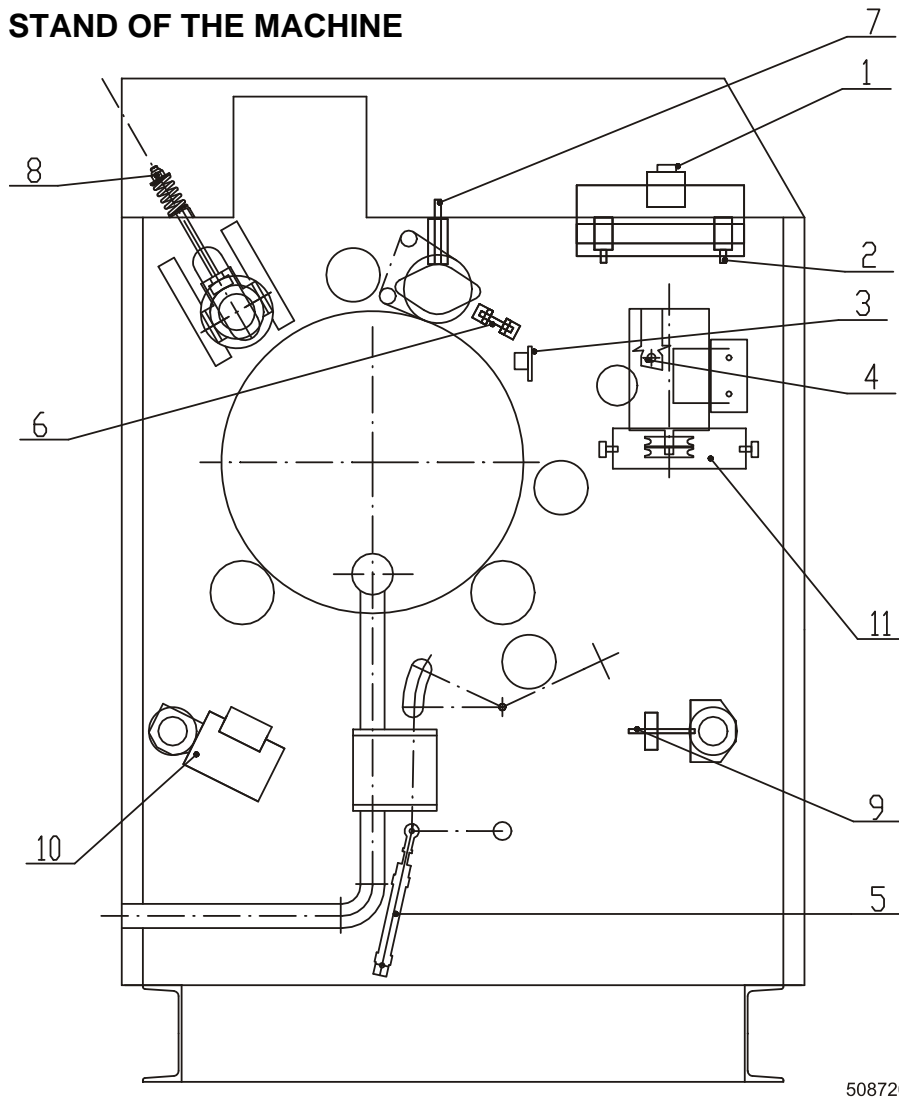

Fig. 5.2.4.A
Minimally 1x a day clean the covers of brush drives. Quantity of textile dust depends on type and quality of linen. Dismantle rear face of the cover, fig. 5.2.4.A, pos. 11 and remove the dust by vacuum cleaner. Remove possible fibres from damaged or low-quality linen by the wire hook.
Round belts of brush drives are tightened by screws, fig. 5.2.4.A, pos. 4.
Adjustment of tilt speed of fold ironing rollers is executed by throttle valves of pneumatic cylinders, fig. 5.2.4.A, pos. 11 in stands of the machine.